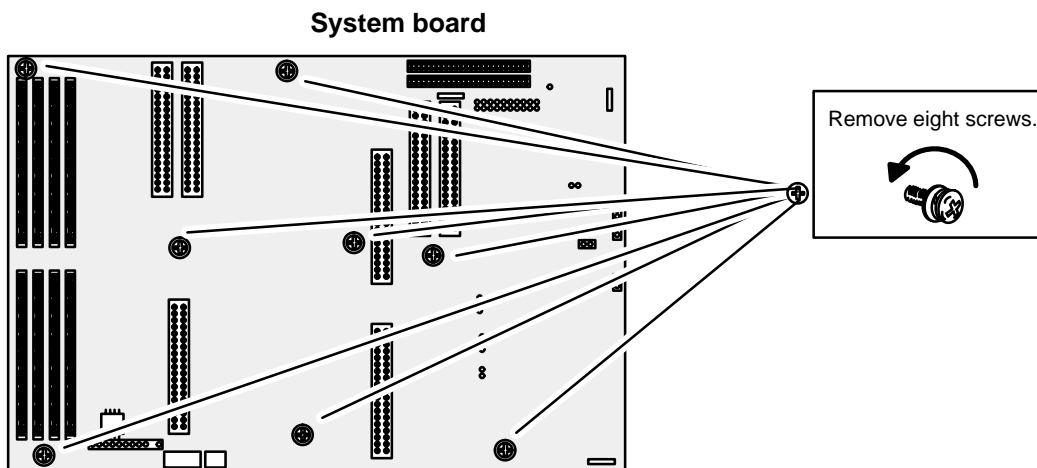

Figure 10-4 Unscrewing the System Board from the Computer Unit
7. Using the medium Phillips screwdriver, remove the eight screws, shown in Figure 10-4, that secure the system board to the computer unit.